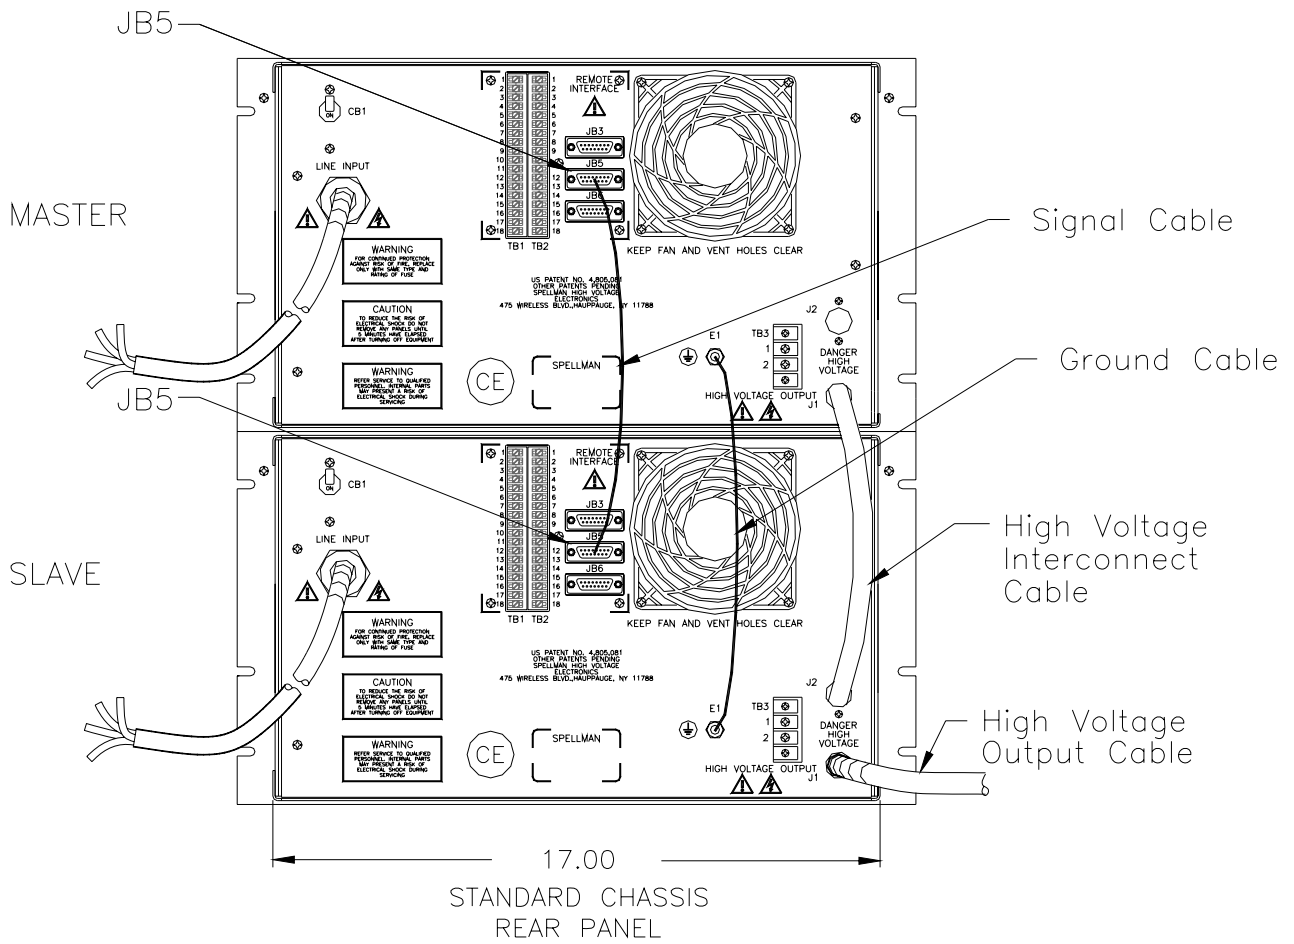

Figure 5.5 12kW Installation Drawing
1. Install the racks per Installation Drawing Fig. 5.5.